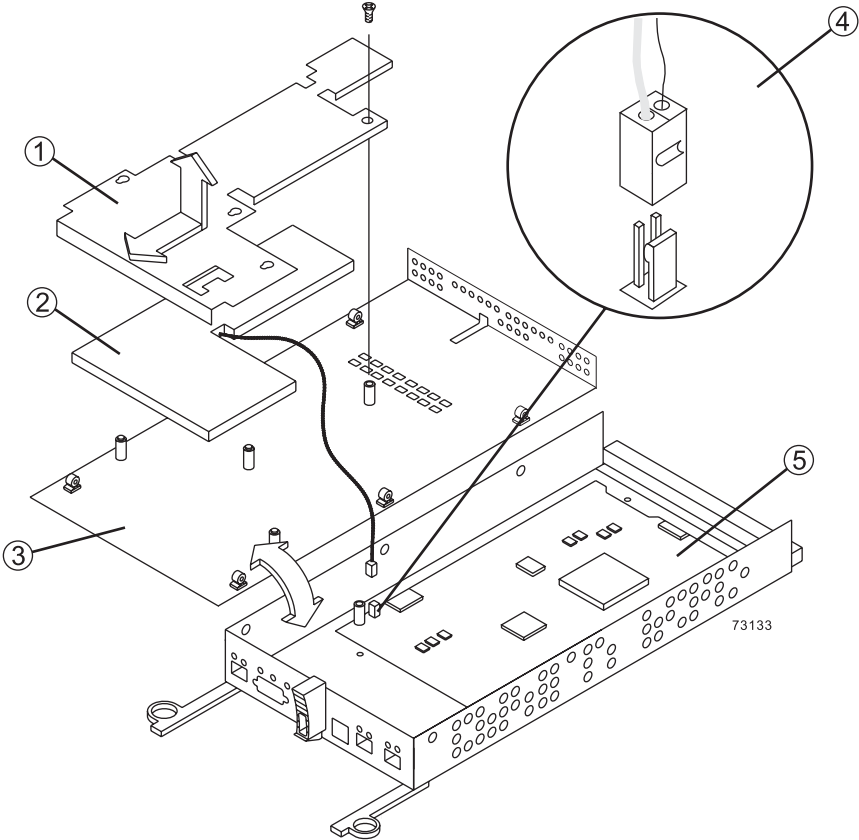

Figure 4-10 Removing and Installing the Controller Battery
- b** Remove the single screw securing the battery bracket, slide the bracket sideways to clear the lugs, and lift the bracket up. Figure 4-10 on page 4-11 shows the bracket in relation to the controller.
- e** Connect the battery harness on the replacement battery to the connector on the controller board in the new controller. Figure 4-10 on page 4-11 illustrates this connection.